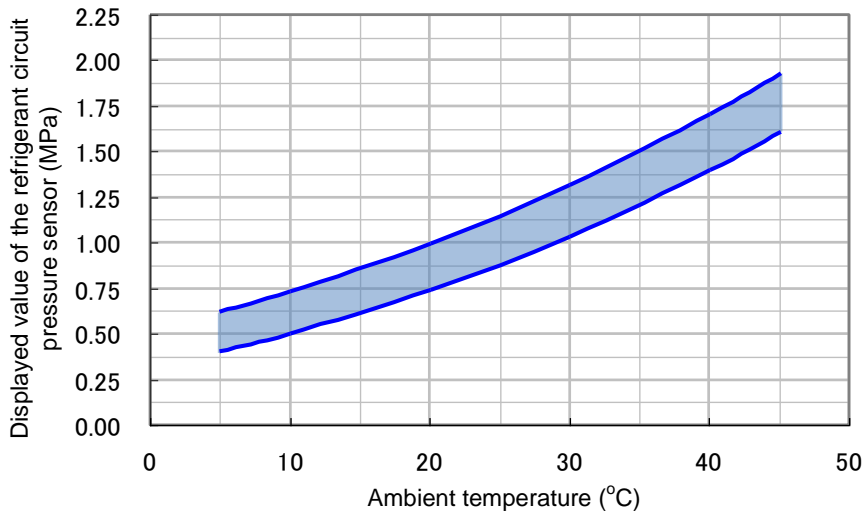

Fig. 3.3-30 Ambient temperature and refrigerant circuit pressure
- (1) Leave the Thermo-Chiller not operating for 24 hours to make the ambient temperature and the temperature inside the Thermo-Chiller the same.
- (2) Check the ambient temperature.
- (3) Check "PL: Refrigerant circuit pressure on the low pressure side" value in the "Check Monitor Menu".
- (4) Check if the value at the cross point of the ambient temperature and the "PL: Refrigerant circuit pressure on the low pressure side" value is within the range (the shaded part) in Fig. 3.3-30. If the cross point is within the range, it means that the pressure sensor is operating correctly.